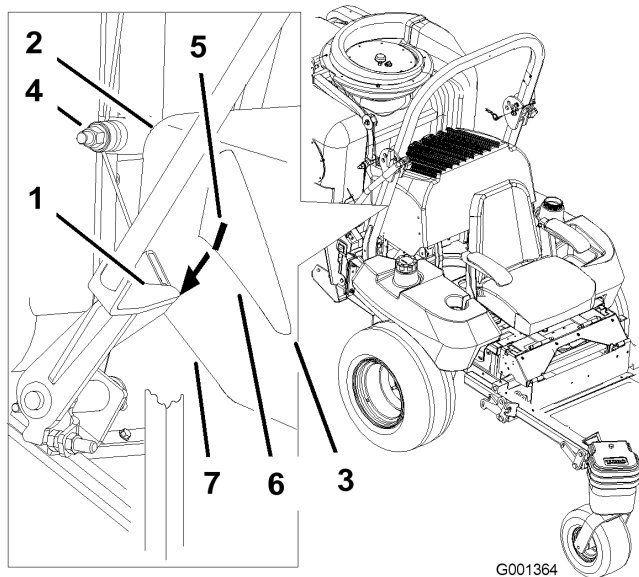

Figure 18
1. Locate template number 1 in the back of this manual. Cut out template number 1 as indicated on the template (Figure 18).
2. Position the template on the right-hand side of the engine shroud (Figure 18).
3. Line up the circles on the template with the rivets on the shroud and the template bottom is flush with the bottom of shroud (Figure 18).
4. Tape the template to the engine shroud. Mark the outer edge of the template. (Figure 18).
5. Cut the engine shroud at the marked line. This will prevent damage to the engine shroud while using the bagger dump lever (Figure 18).
8. Remove the cable guide and bolt from the frame of the bagger (Figure 18).
9. Install the cable guide, bolt, and nut with the cable behind the cable guide (Figure 18).